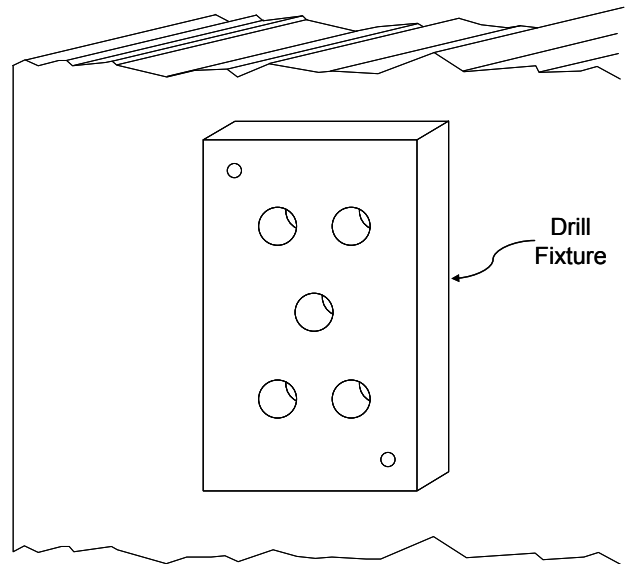

Figure 23: Strain Gage Drill Fixture
- 4) Place the hardened drill fixture provided with the direct mounting strain gage kit in position adjacent to the scribed line. Use a number 3 drill to drill a 5/8" deep hole in the mounting surface through the center hole position of the drill fixture. Tap the hole for a 1/4 x 28 thread. Bolt the drill fixture securely to the mounting area, as shown in Figure 23.